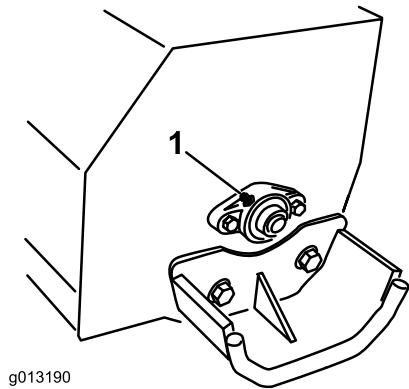

Figure 5
2. Clean the grease fitting with a rag (Figure 5).